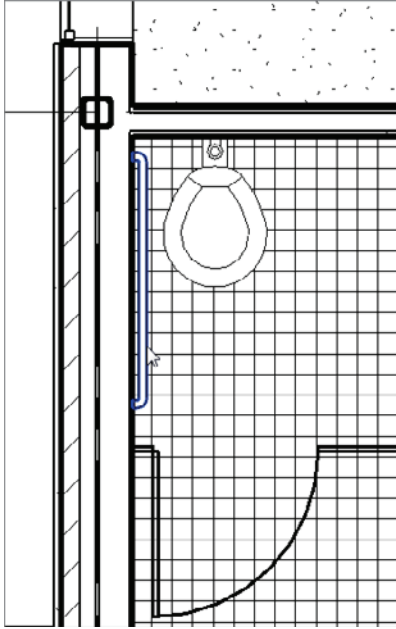

FIGURE 9.42 Adding the grab bar family to the wall
1. Zoom in on the accessible stall, as shown in Figure 9.42.
4. Place the grab bar along the wall, as shown in Figure 9.42.